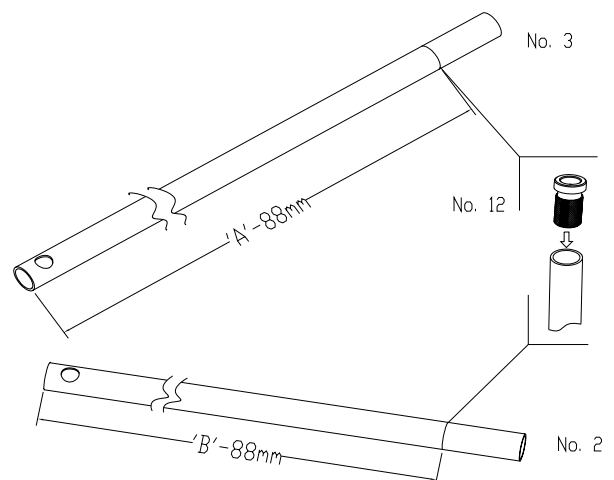

Fig 4.3
- 6) Cut tubular rods (Items 2 & 3) to the lengths measured less 88mm for both. **See Fig 4.3**
Remove any burrs and insert Knurled plugs (Items 12) fully into cut ends of rods taking care to use a wooden block to support the opposite end when knocking the plugs into position. **See Fig 4.3**